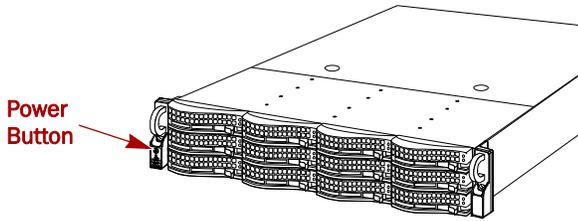

Figure 16. Power Button on Left Flange
To turn the expansion array **ON**, press and hold the Power button (Figure 16) for no more than one (1) second.